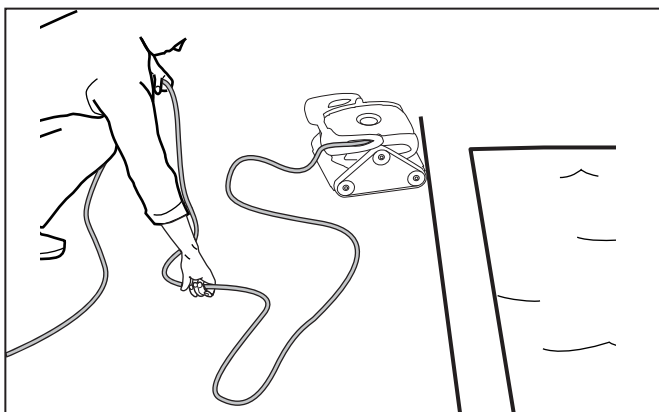

Figure 11. Untangle the Floating Cable
1. Starting at the cleaner head. Remove all coils and tangles from the cable (Figure 11).